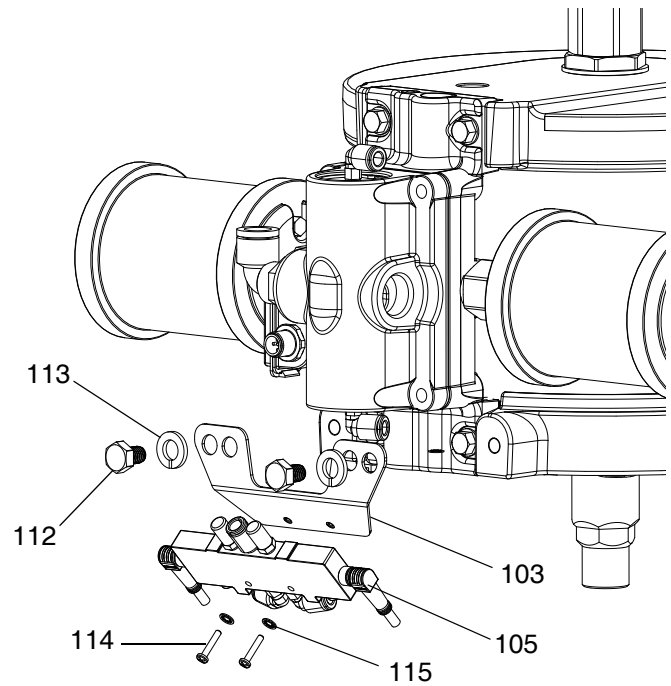
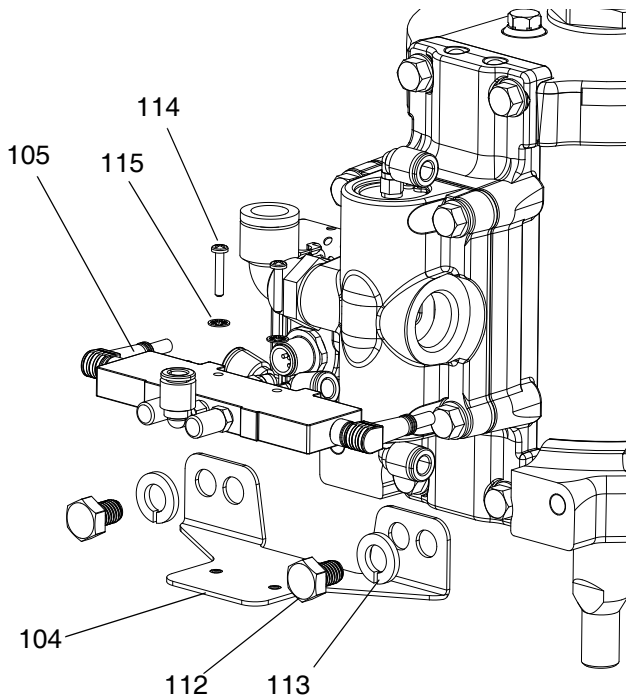

FIG. 17: Install Solenoid Valve Assembly
FIG. 16: Install Solenoid Valve Assembly
10. Mount the solenoid valve assembly (105) onto the correct bracket (103 or 104) for your air motor using the screws (114) and washers (115) as shown in FIG. 16 and FIG. 17.
11. Install the solenoid bracket (103 or 104) to the back of the air motor body using the two mounting screws (112) and washers (113) as shown in FIG. 16 and FIG. 17.